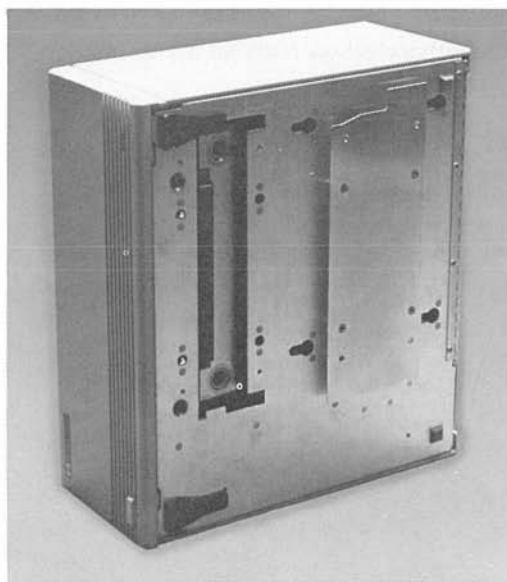

Figure 8-1. Removing the Cover Plate
- b. Remove the cover plate on the front bottom of the HP 98700 and place it in the parking position provided (see Figure 8-1).